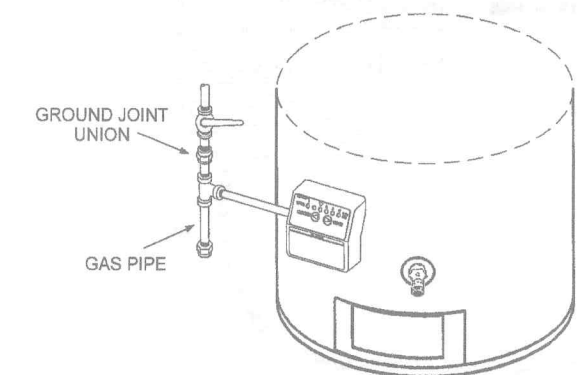

FIGURE 11.
14. Connect gas piping to the Intelli-vent™ Thermostat Control, (184960 Series) and only to the type of gas (i.e. Natural or Liquefied Petroleum/ LP gases, Propane gas) as shown on the rating plate. Use only clean 1/2 inch black iron pipe. (Dirt and scale from the pipe can enter the control and cause it to malfunction). The inlet gas line must have a drip leg (sediment trap) installed as close as possible to Intelli-vent™ Thermostat Control, (184960 Series) having a minimum length of three (3) inches (7.6 cm). A ground joint union must be installed in the gas supply line feeding the water heater to permit servicing, of the water heater, see Figure 11. Joints shall be made using approved gas pipe joint compound on the male pipe thread ends. Pipe joint compound must be resistant to the action of Liquefied Petroleum/ LP gases, Propane gas. Do not use Teflon Tape.